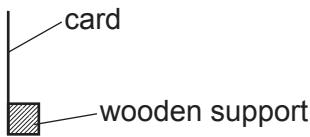

Fig. 7.2
2. The screen can be made from a sheet of white card (approximately 10 cm \times 10 cm). Some means of supporting the screen vertically must be supplied (e.g., fixing the white card to a small block of wood). See Fig. 7.2.